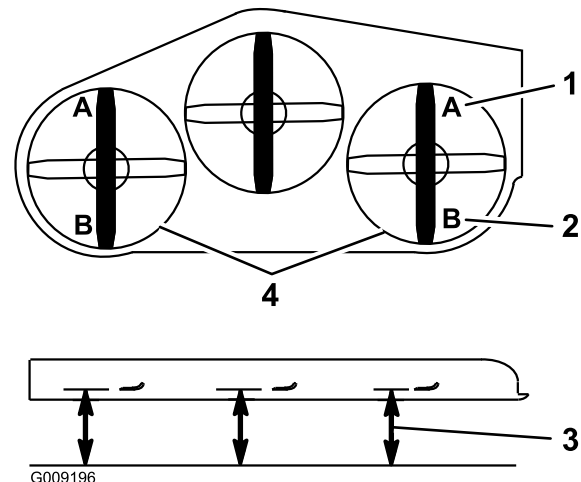

Figure 92
9. On both sides of the deck, measure from the level surface to the front tip of the blade (Position A). The measurement should read 3 inches (7.6 mm) (Figure 92).
15. On both sides of the deck, measure from the level surface to the back tip of the blade (Position B). The measurement should read 3 1/4 inches (8.3 cm) (Figure 92).